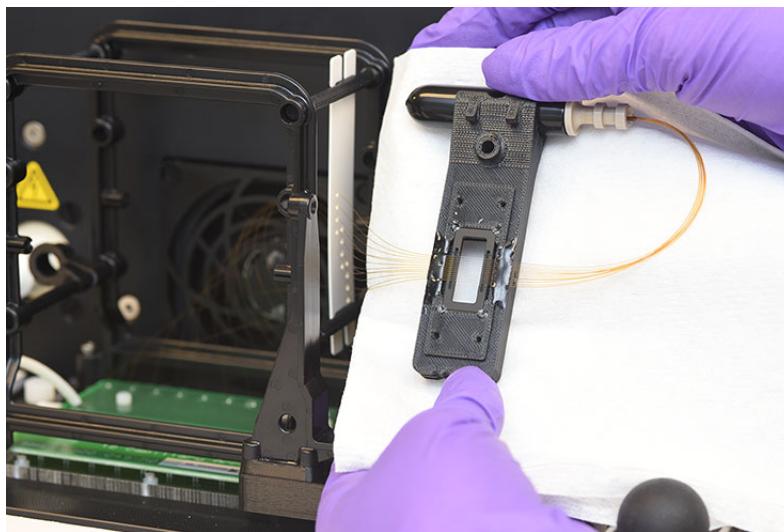

Figure 110 Capillary array window with paper towel behind
- 6 Place a paper towel behind the capillary array window as shown in **Figure 110**.